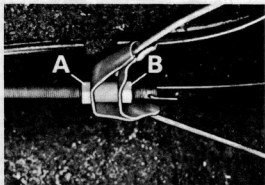

Fig. 9.12. Handbrake cable adjuster (Sec. 10)
- 7 From underneath the car loosen the nuts retaining the cable saddle in position on the rear end of the relay rod, and turn them so as to move the saddle forward on the rod. Re-apply the handbrake and count the notches passed by the hand lever. The hand lever should begin to apply the brakes after the third notch and be fully applied at the fourth or fifth. When the cable saddle has been moved to the correct position, tighten the retaining nuts (Fig. 9.12).